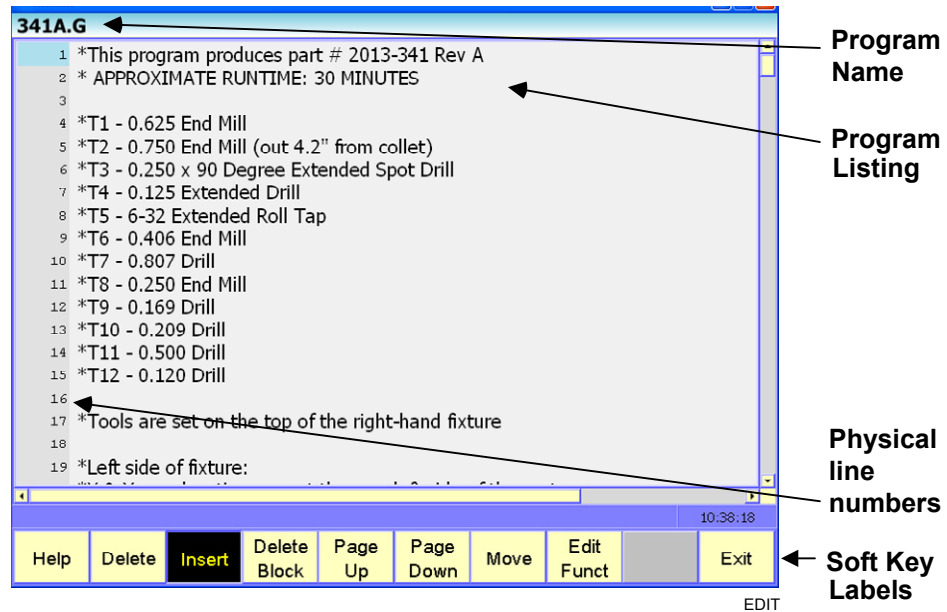

Figure 6-1, Edit Screen
1. With the appropriate program loaded, press **Edit (F3)**. The Edit Screen activates. See **Figure 6-1**.
1. Press **Edit (F2)**. The Edit screen activates. Refer to **Figure 6-1**.